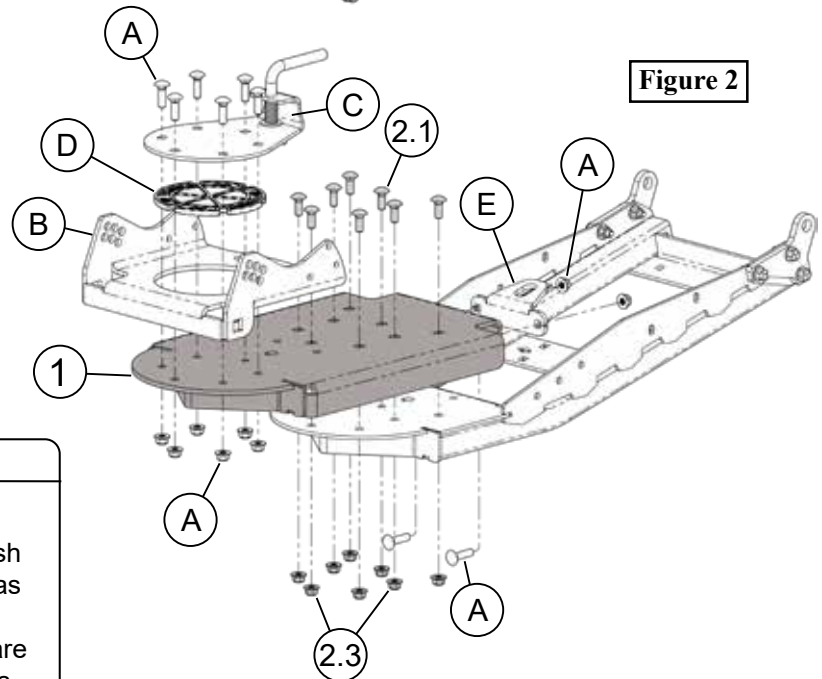

Figure 2
2. Reinstall pivot bushing (D), lift latch assembly (C), cradle (B), and cable hook bracket (E) using hardware (A) removed in step 1 onto UTV Track Extension (1) as shown in **Figure 2**.
3. Install UTV Track Extension (1) onto push tubes using bolts (2.1) and nuts (2.3) as shown in **Figure 2**. **NOTE:** If the push tube does not have rear holes, drilling is required. See **Drilling Note Below**.